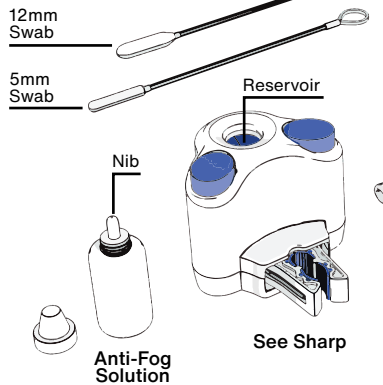

FIGURE 1
1. Peel the label from the package and remove the contents (*figure 1*) which include: one (1) See Sharp™ unit, one (1) microfiber cloth, one (1) 5mm trocar swab, one (1) 12mm trocar swab, one (1) bottle of anti-fog solution.